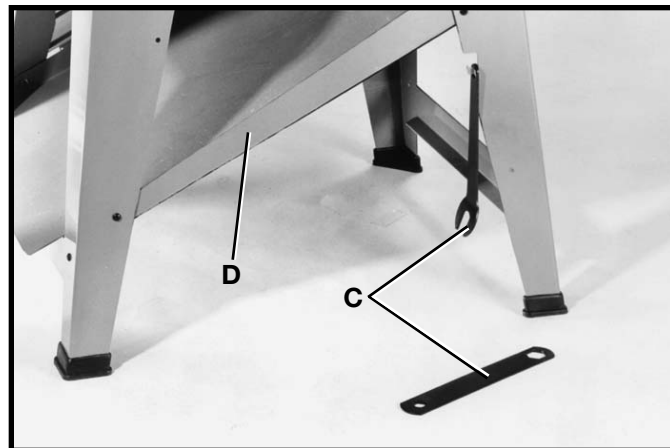

Fig. 109
3. Arbor wrenches (C) Fig. 109, can be stored on one of the two notched legs.
The saw stand support panel (D) Fig. 109 also serves as a natural built-in dust chute. This dust chute (D) allows the sawdust to conveniently escape out the rear of the saw stand and away from the work area.